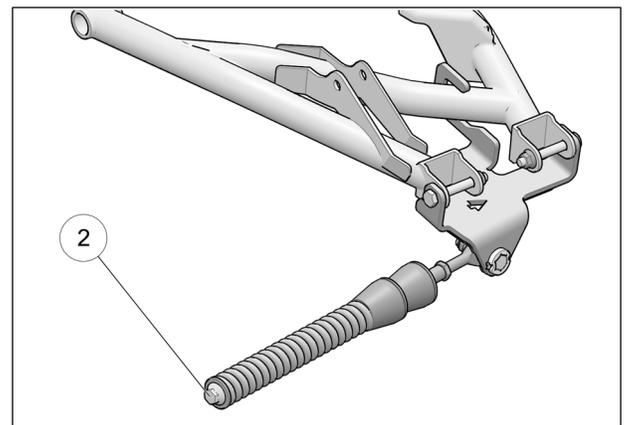

Fig. 11
11. Verify that spring assembly bolt (2) is tightened to the recommended torque specification: $75 \text{ N}\cdot\text{m}$ [$55 \text{ lb}\cdot\text{ft}$]. Refer to Fig. 11